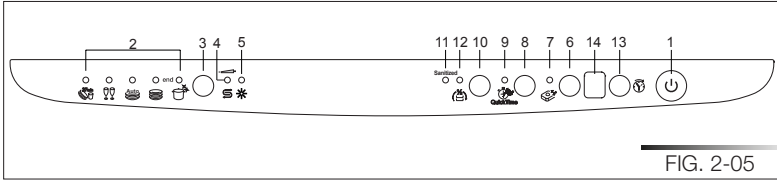

FIG. 2-05
Press and hold down the **program delay** button (ref. 12 fig. 2-05) until the preset value appears followed by a dot (normally **3.**). Release the button and then press it again and again until the required value is displayed, as indicated in the table (see tab. 2-03).